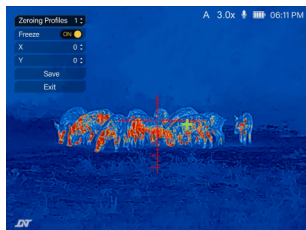

Figure 1
4. Use the center of the reticle as POA, and acquire your POI (illustrated as + on **Figure 1**).